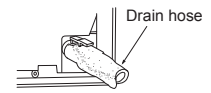

Fig. 4
- Insert the drain hose fully into the drain pan at the rear right of the indoor unit. (Fig. 4)
- Insert the drain hose into wall hole sleeve (C), and hook the upper part of indoor unit on installation plate (1). Then, move the indoor unit completely to the left in order to make placing the piping in the back space of the unit easier.
- 4) Flaring work (Fig. 4, 5). Firmly hold copper pipe in the dimension shown in the table. Select A mm from the table according to the tool you use.